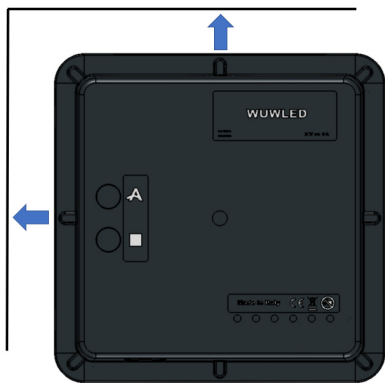

Figure 10
- 2.6. Apply the transmitter aligning it to the two perpendicular lines previously drawn (fig. 10).